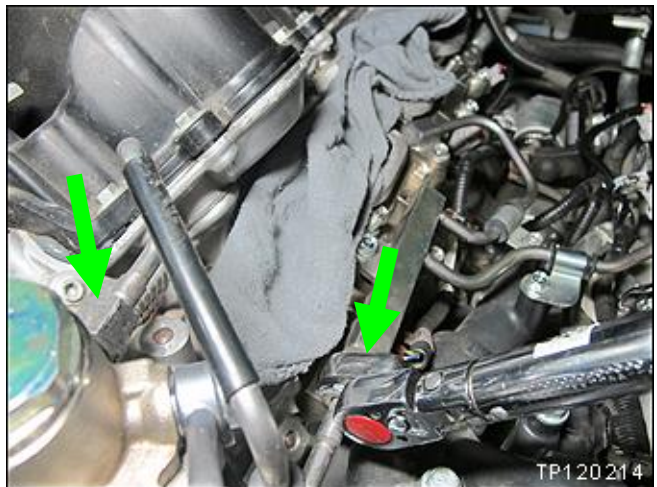

Figure 16
22. Torque the flange nuts shown in Figure 16: